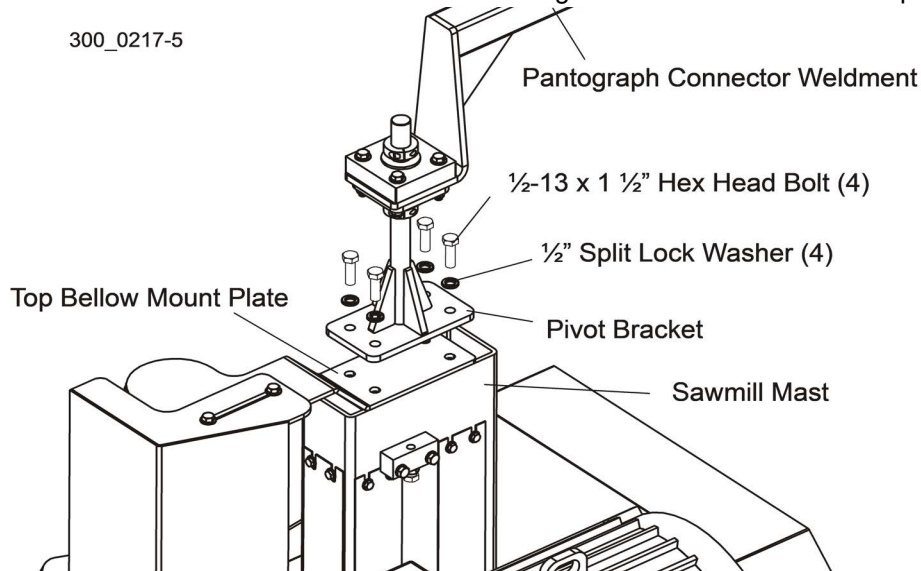

FIG. 3-10
5. Install the connector weldment to the end of the frame weldment as shown in Figure 3-10.